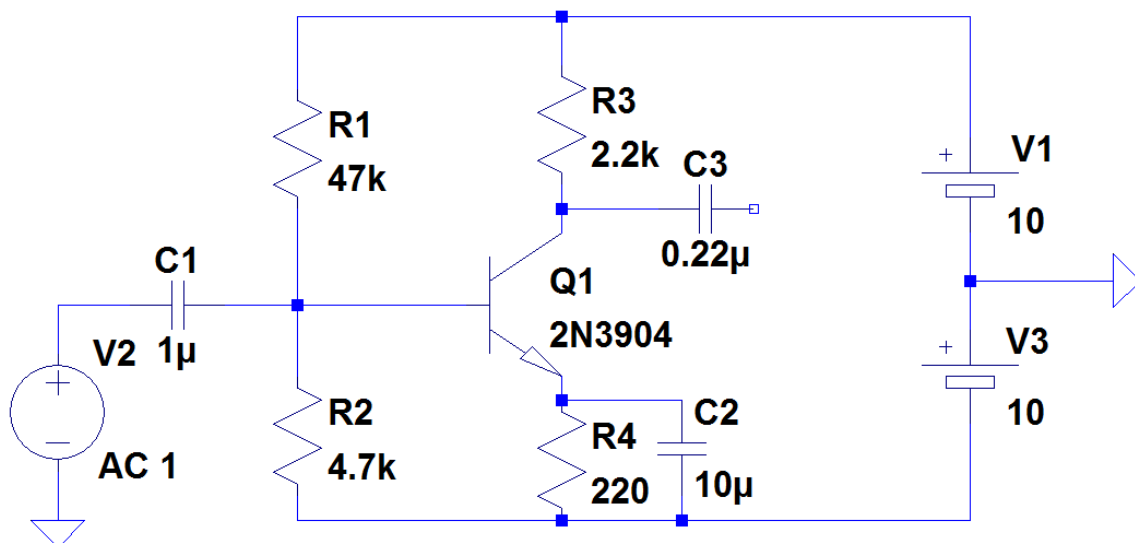

FIGURE 1: Common emitter amplifier.
Figure 1 shows a Common Emitter (CE) amplifier, with a bypassed emitter resistor. Details of how this amplifier works are available from the ELEC1207 course notes. It is a very common and useful amplifier configuration. Before you arrive in the lab, you must establish certain predicted parameters for the performance of this circuit. Simulation provides a good starting point, and you should enter the circuit of Figure 1 into a circuit simulator such as MultiSim, LTSpice or PSpice.
- 5) Make sure everything else is connected. In Figure 1, a blue blob shows where nodes connect.